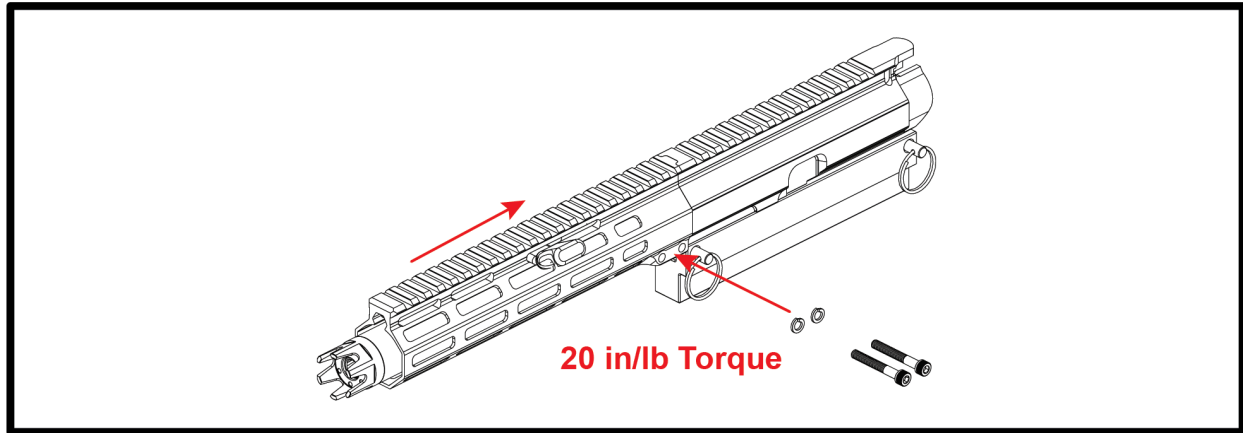

FIGURE 14.5 - Reinstall the Handguard
Step 5 — Reinstall the Handguard (FIGURE 14.5)